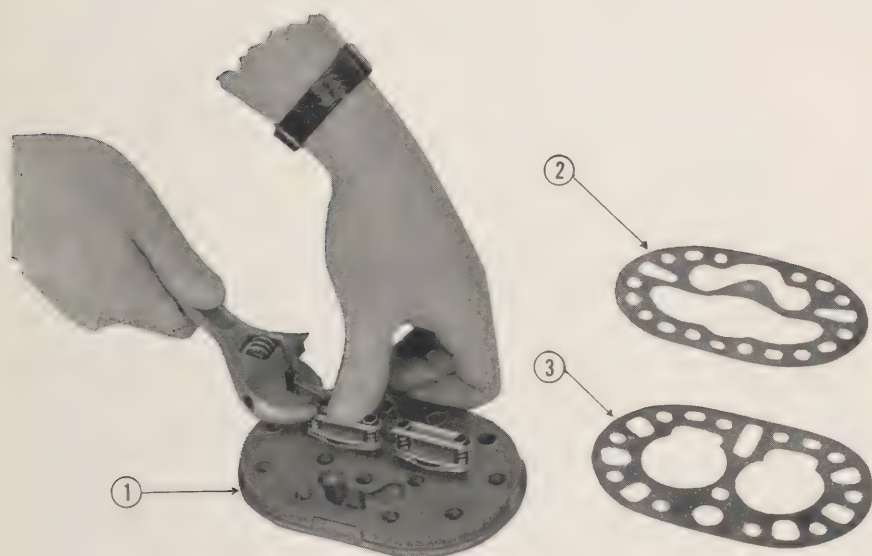
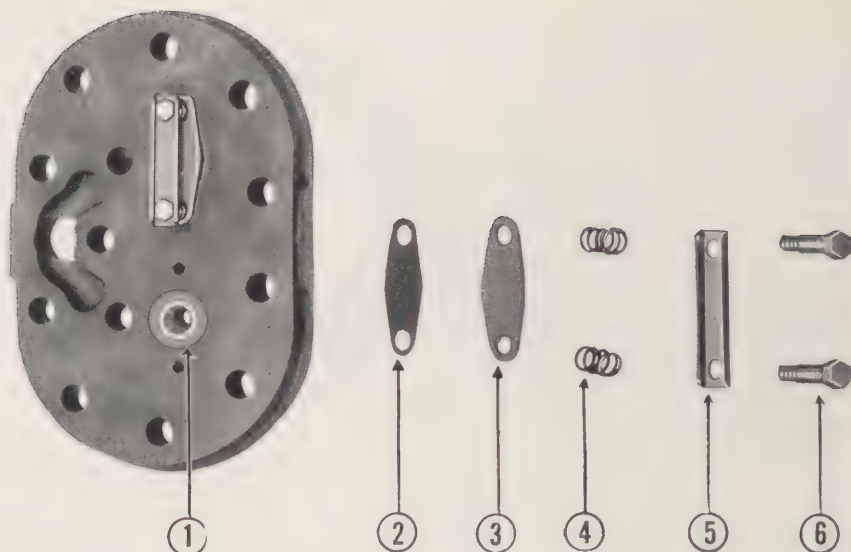
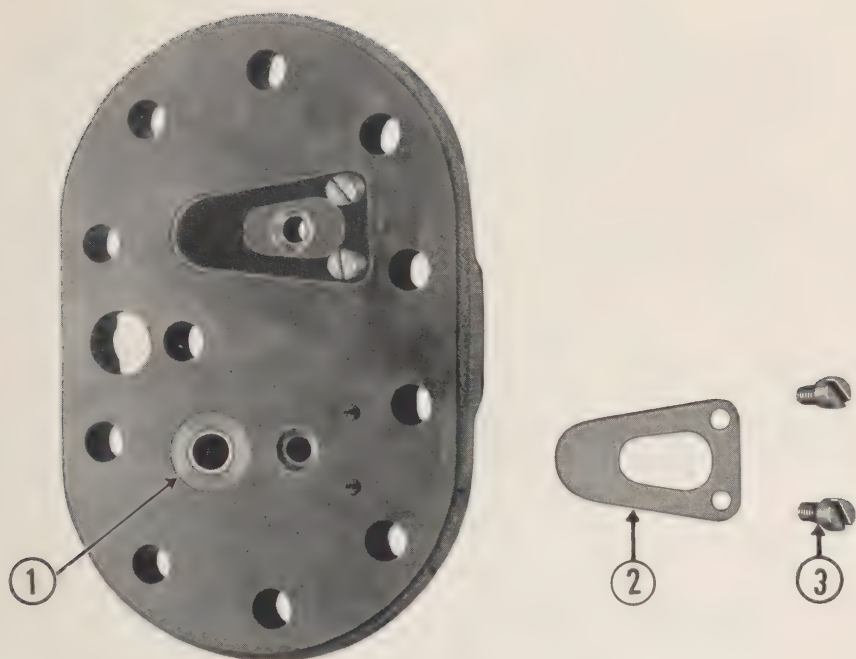

Figure 56. Disassembling cylinder head valve plate assembly.
Figure 57. Discharge valve reed disassembled.
Figure 58. Suction valve reed disassembled.
- (16) Disassemble cylinder head valve plate assembly (fig 56) by depressing the valve plate discharge reed locks (fig 57, item 5) and removing the reed discharge screws (fig 57, item 6). This releases the discharge reed springs (fig 57, item 4), discharge reed cushions (fig 57, item 3), and discharge reeds (fig 57, item 2). The suction reeds (fig 58, item 2) can be disassembled by removing the suction reed screws (fig 58, item 3).
- (10) Reassemble cylinder head valve plate assembly making sure that the seats are absolutely clean. If cleaning is necessary, use a chamois if available. If new parts are not needed, care should be taken making sure the old parts are installed in their original position. In assembling the discharge valve reeds, align components as illustrated in fig 57. Either side of reed may be used as a seating surface. Assemble the suction valve reeds on the opposite side of the valve plate with the curvatures up to create tension on the seating surfaces. Secure the reeds to the plate with the 4 suction reed screws (fig 58).
- (11) Place a few drops of refrigerant oil on the heads of the pistons and install the cylinder head valve plate assembly on the compressor using 2 new gaskets, 9R27132 and 9R27134. The valve plate assembly and gaskets will only fit in their correct position when holes are properly aligned.
- (12) Reinstall the compressor head with the 10 cap screws drawing the screws up gas tight working evenly from side to side.